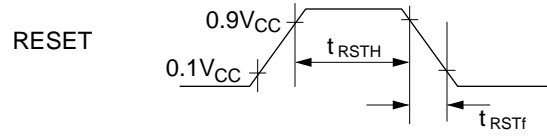

**Figure 50 Interrupt Timing**
- Refer to figure 50. The  $t_{cyc}$  unit applies when the MCU is in standby or active mode.